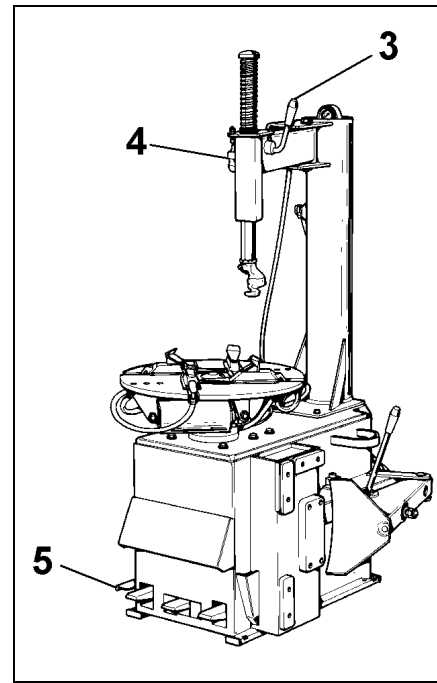

Fig.10
**D** Lower the lock handle (#3 Fig.10) to unlock the vertical slide, lift the handle to lock.
**E** Turn adjustment knob (#4 Fig.10) for positioning mount/demount head to rim diameter.
**F** Press bead-seater pedal on left side of the machine (#5 Fig.10) half way down: air will come out from inflation hose end.